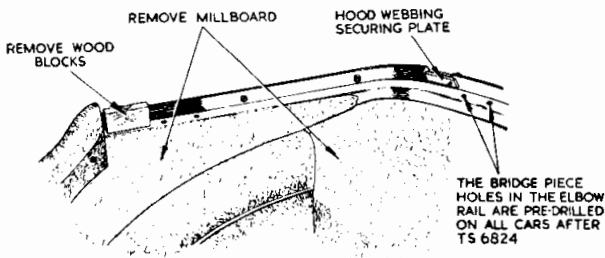

Fig. 2 Showing Cappings removed.
- (d) Detach the five cappings from the elbow rail after removing the P.K. securing screws. Remove the two wood blocks from the elbow rail. (Fig. 2.)
- (e) Remove the millboard from the front of the petrol tank after removing the P.K. securing screws. (Fig. 2.)